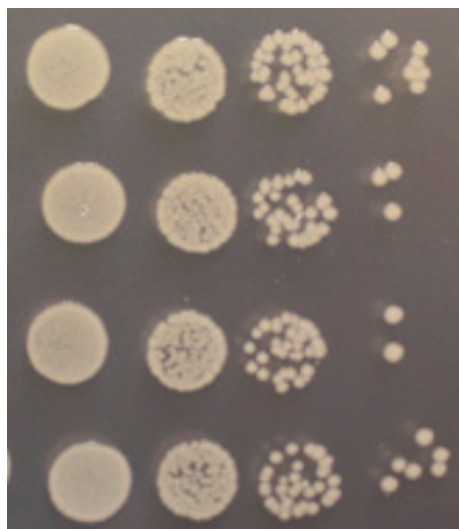

Figure 10.1. Spot titer rows.
You've done many viable-count spread plates this semester. Some of the experiments here will use a similar technique, but designed to look at *many* dilutions on a *single* plate. The reason for this is that we will not have a very good idea how many living bacteria are in a sample, because we are actively trying to kill them off. The "spot titer" plates you will make here are not as *accurate* as full spread plates because you often can't count individual colonies, but you can see growth over a much wider range of dilutions. Whenever an experiment calls for you to set up a spot titer plate, use the following protocol, which is demonstrated graphically in Figures 10.1 and 10.2.
1. You can put up to 4 rows of 4 spots each onto a single plate. Each row represents a single series of 4 dilutions for one culture. See **Figure 10.1** for an example.